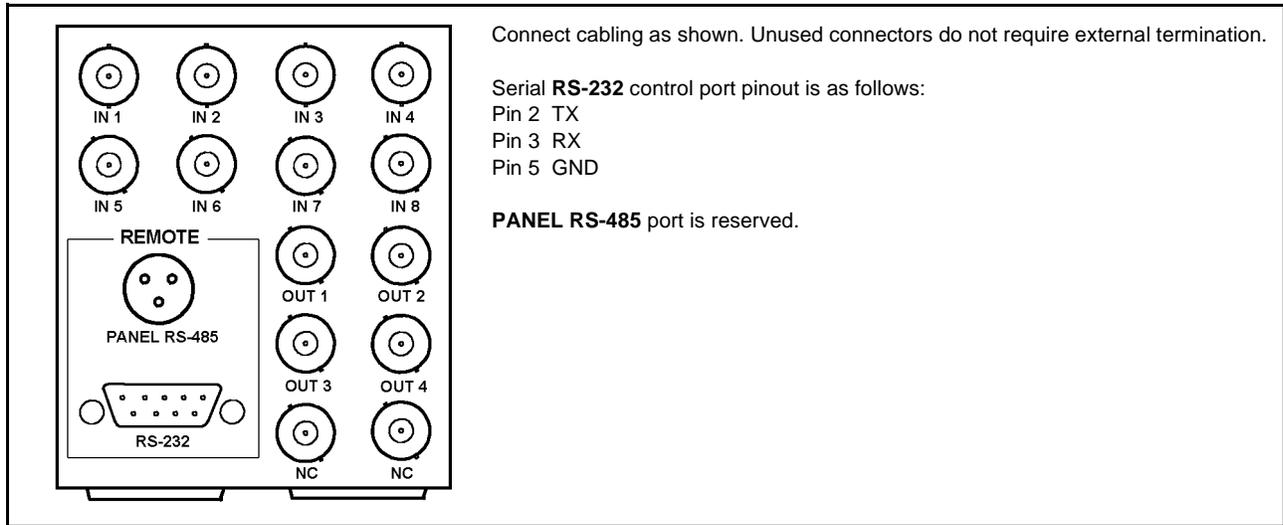

Figure 2-1 9284 Rear I/O Module Connections
8. Connect the input and output cables as shown in Figure 2-1.